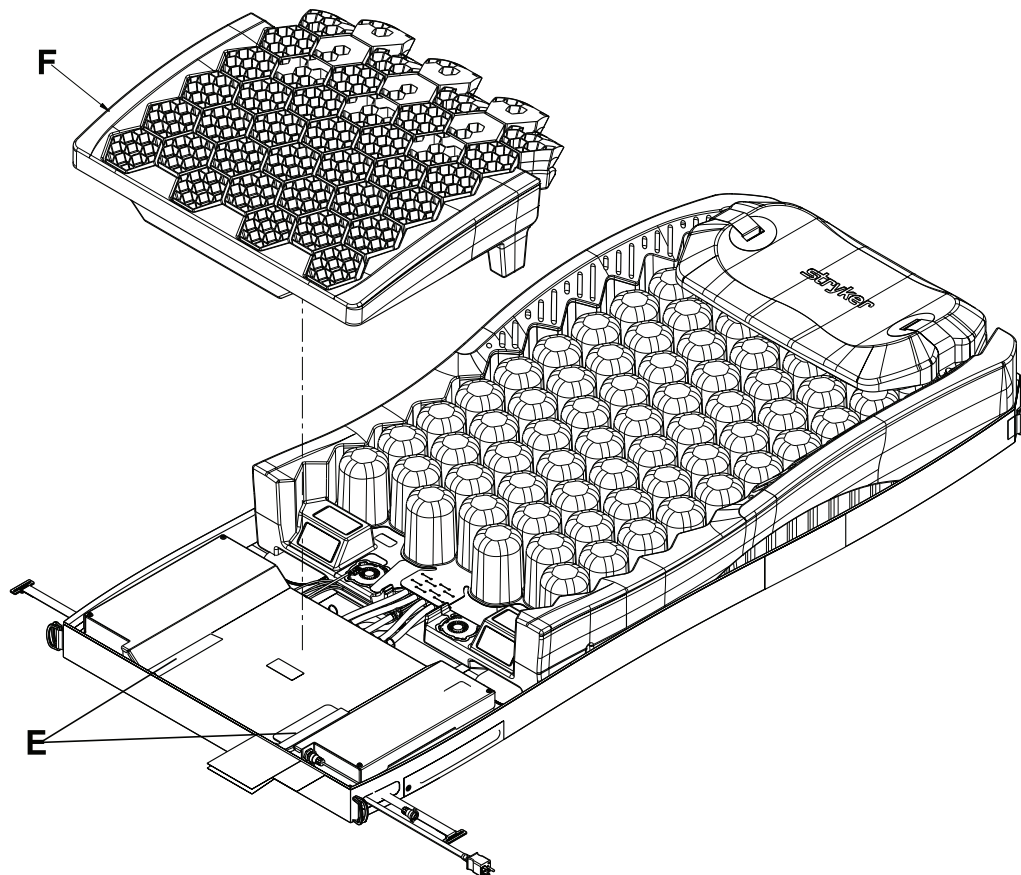

Figure 1-17: Gel crib
11. Remove the foot section gel crib (F) by lifting upward (Figure 1-17 on page 1-41). Save gel crib.